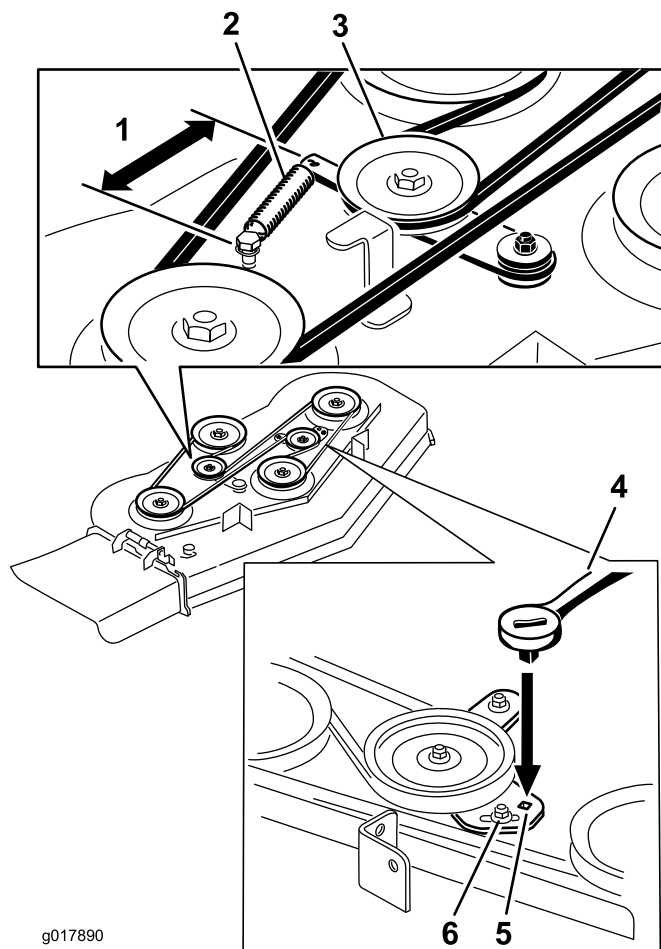

Figure 73
5. Remove the worn mower belt (Figure 73).
6. Install the new mower belt around the deck pulleys and clutch pulley (Figure 73).
7. Using a ratchet in the idler arm, tighten the idler pulley until the spring is stretched 165 mm (6-1/2 inches) from hook to hook (Figure 73).